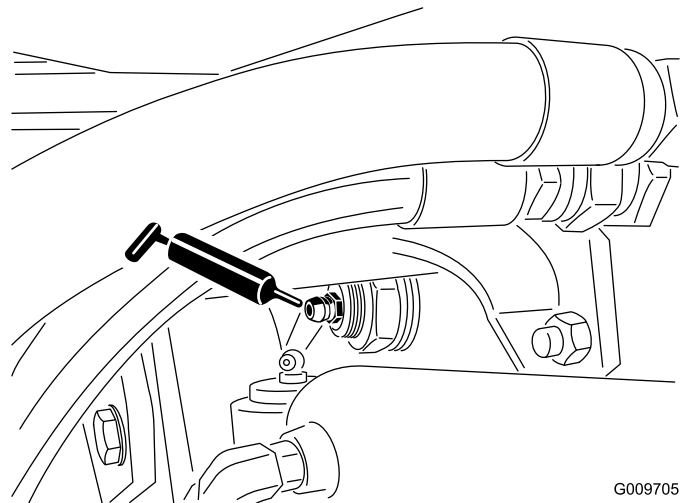

Figure 26
- Rear-axle pivot bushings (2) (Figure 26)